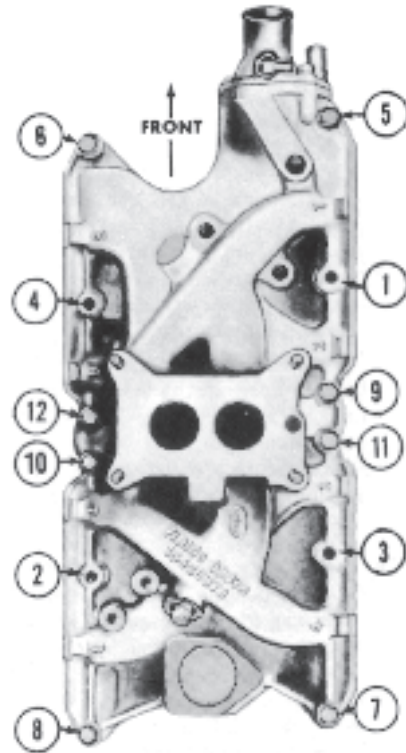

Fig. 15 Intake Manifold Bolts Torque Sequence
5. Be sure the holes in the manifold gaskets and manifold are in alignment. Install the choke heat stove. Install the intake manifold attaching bolts and nuts. Torque the intake manifold bolts in sequence (Figs. 15 and 16) to specifications.